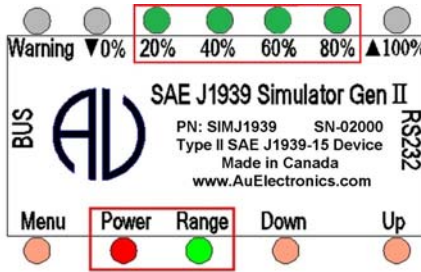

Figure 3-6 Power, Range, 20%, 40%, 60%, 80% LED on, indicates data ranges from 81% to 99%
- If keep pressing **Up** button, the control step value will keep rising, 20%, 40%, 60%, and 80% LED will be on, as shown in Figure 3-6, it indicates the data range from 81% to 99%.